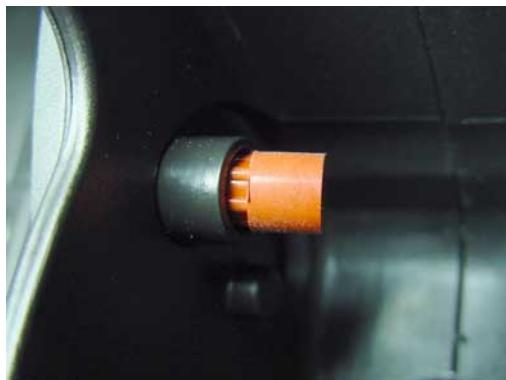

Fig. 3-31 Needle sealing
3. The needle sealing falls out when re-connecting the Barex tube (see Fig. 3-31).
Pay attention to correct orientation of the needle sealing (see Fig. 3-31)!